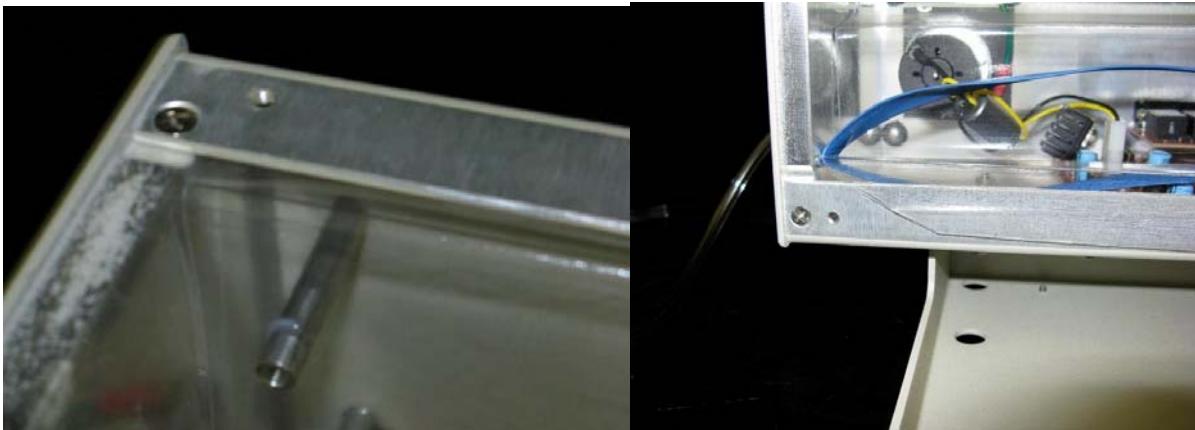

Figure 1-13. View of splashguard placement.
11. Remove the two shield pieces. Notice that the splashguard goes under the chassis on the top and over the chassis on the bottom. See Figure 1-13. When you replace the splashguard, ensure it is oriented in this manner.